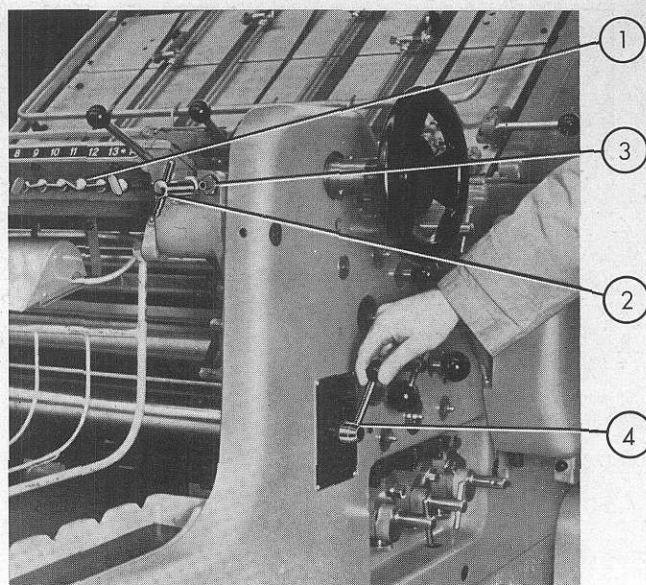

Fig. 18
Loosen all adjusting set screws 1 (fig. 18) so that they do not press down on blade. Check uniform distance between blade and roller by running a .004" gauge along the whole length. It may be necessary to adjust the position of the entire ink-fountain unit to the roller in order to obtain this exact distance.
- a) loosen the two wing nuts 2 (fig. 18) which lock the ink-fountain;
- b) adjust set screws and nuts located on the ink-fountain ridges next to the wing nuts 3 (fig. 18);
- c) thoroughly tighten wing nuts 3 (fig. 18);
- d) adjust fountain blade contact with roller at different points by means of pressure keys 1 (fig. 18).
**The ductor roller can operate** in three different ways (No. 4, fig. 18):